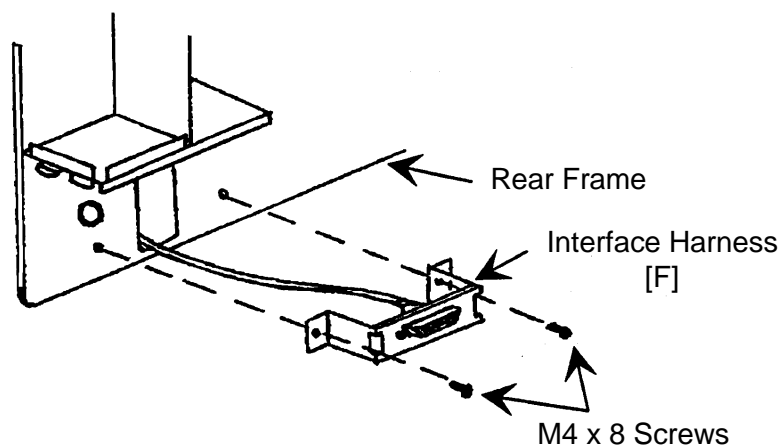

FIGURE 3:
15. Working from the rear of the machine, thread the small connector end of the Interface Harness with Bracket [F] through the cable channel to the front of the machine. Refer to figure 3.
17. Attach the U-shaped bracket of the Interface Harness across the cable channel of the chassis, use two M4x8 screws with flat washers. Refer to figure 3.